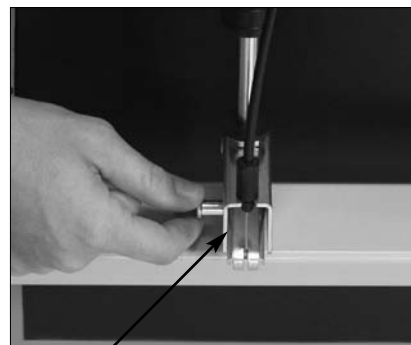

Figure 3
1. Remove cardboard shipping retainers from around Gas Spring Cylinder. Rotate the hinge on the gas spring so that it is perpendicular to the upholstered back. (Fig. 3)
5. Raise the upholstered back to vertical position. Tuck the plastic skirt at rear of upholstered back behind cross brace of seat frame. Align the hinge at the bottom of the gas spring with the holes in the "U" bracket in the center of the seat frame cross brace. While holding the back with one hand, secure the gas spring hinge to the "U" bracket by replacing the 5/16" diameter clevis pin with the other hand. Secure the clevis pin by replacing the bridge clip. (Both gas spring cylinders. Fig. 3)